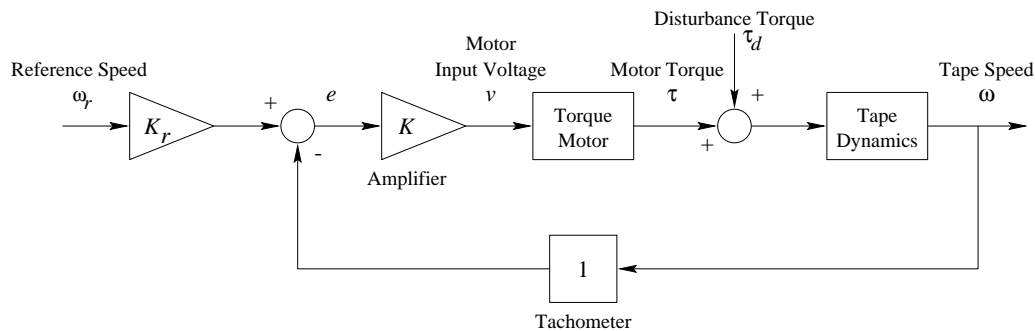

Figure 3.1. : Closed-Loop System with Unity Feedback.
- Obtain an all-integrator block diagram for the system in figure 3.1. Show the intermediate variables (τ , v etc.). Note that the motor torque is the convolution of a step input with the motor's transfer function.
2. For the system in Figure 3.1, derive the relationship between the steady-state error ($e_{ss} = \omega_r - \omega$) and the natural frequency, ω_n . Consider the error as a function of both ω_r and τ_d , when both are step inputs. Since the system is linear, superposition allows the two components of e_{ss} to be calculated separately and then summed.